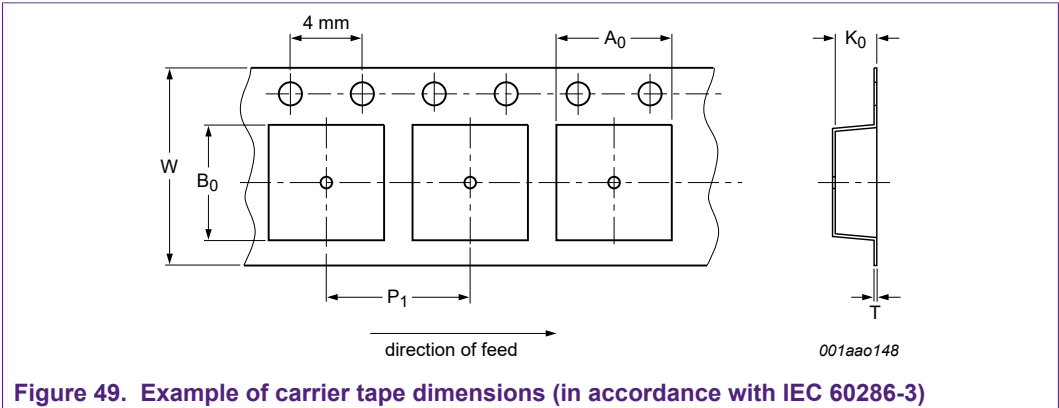

Figure 49. Example of carrier tape dimensions (in accordance with IEC 60286-3)
- Carrier tape dimensions and tolerances (Figure 49 and Table 8)